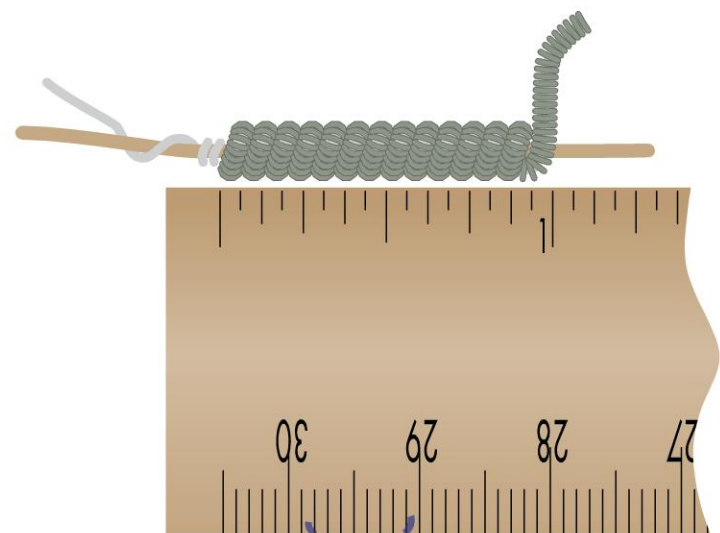

figure 1
- 3 Cut 6" (15.2 cm) of 20-gauge wire. Coil the 20-gauge wire around the mandrel twice. Slide the 26-gauge coil onto the 20-gauge wire and while holding onto the 26-gauge wire tail, coil this around the mandrel, creating a double coil 1" (2.5 cm) long (Figure 1).